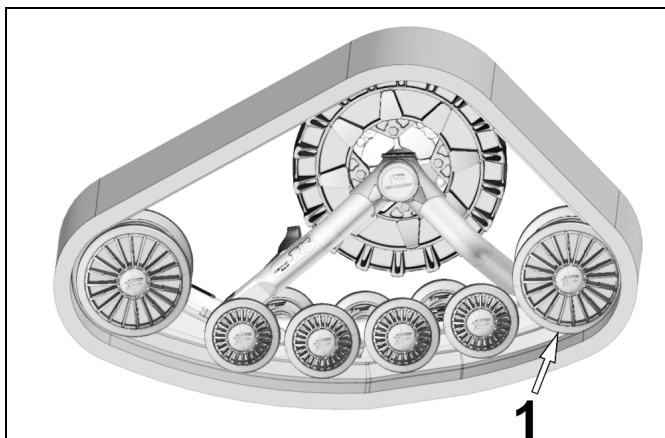

Figure 30
- Re-install 202 mm (1) wheels. See Figure 30.